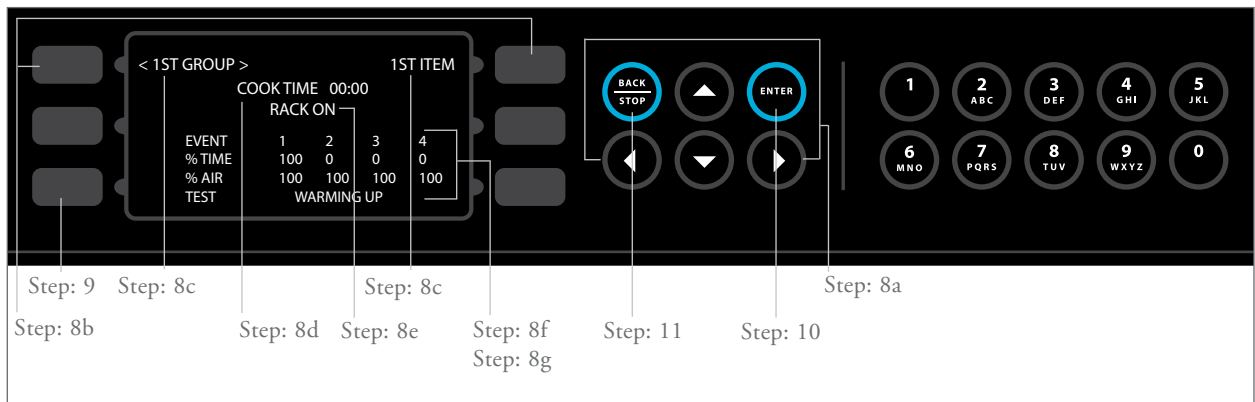

Figure 21: Modifying Recipes – Steps 8-11
8. From Food Item screen (Figure 21):